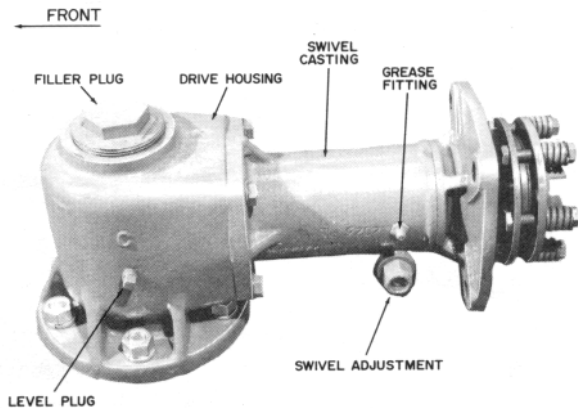

fig 6
3. Remove filler plug and level plug, fig 6 . Fill the gear drive housing to the oil level plug with SAE 90 gear lubricant. Replace the plugs. Check the level periodically especially if signs of leakage are present.
4. Grease the swivel casting through the grease fitting on the casting with general purpose grease. Add grease until it comes out under the swivel adjustment fig 6. Re-grease every 8 HOURS of operation.
2. **CASTERS:** The caster wheels should be adjusted (if necessary) after the mower is attached to a tractor. Raise or lower the casters, by use of the spacers, to make the mower level with the ground, fig 6 , Item 46.